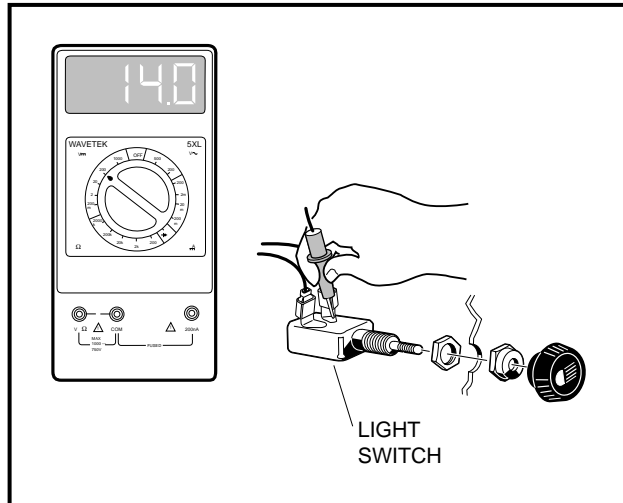

Figure 11-47 Light Switch Test
3. Using a multimeter set on 20 volts DC, place alligator clips on the multimeter probes. Connect the red (+) probe to the light switch terminal with the blue wire connected to it (**Figure 11-47, Page 11-42**).